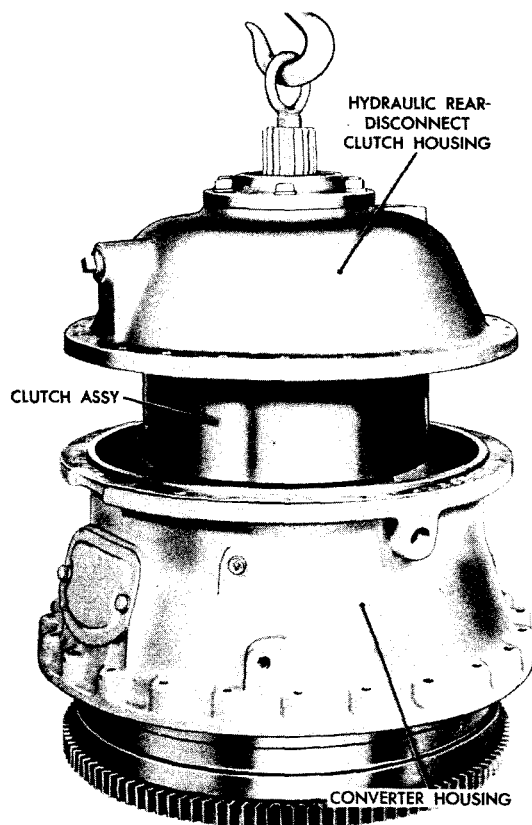

Fig IX-6. Removing (or installing) disconnect clutch housing
(5) Install an eyebolt in the end of the clutch shaft and, using a hoist, position the shaft, housing and related parts above the disconnect clutch assembly (fig. IX-6). If the clutch only is being installed in the drive line, use a suitable lifting sling under the housing, instead of an eyebolt, in the end of the clutch shaft.
(6) Lower the clutch shaft assembly into the disconnect clutch assembly, rotating the clutch shaft as it is lowered so as to engage the splines on the clutch hub with the splines on the clutch friction plates. If the clutch only is being installed in the drive line, move the disconnect clutch housing toward